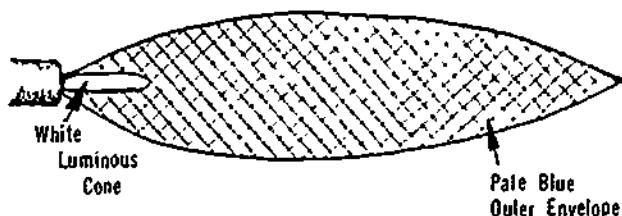

Figure 18-17. Neutral Flame
b) The neutral flame (Figure 18-17) is the ideal flame for welding mild steel, copper, and cast iron. The ratio between acetylene and oxygen supplied to the torch is about 1-to-1. The temperature of this flame is about 3260°C.